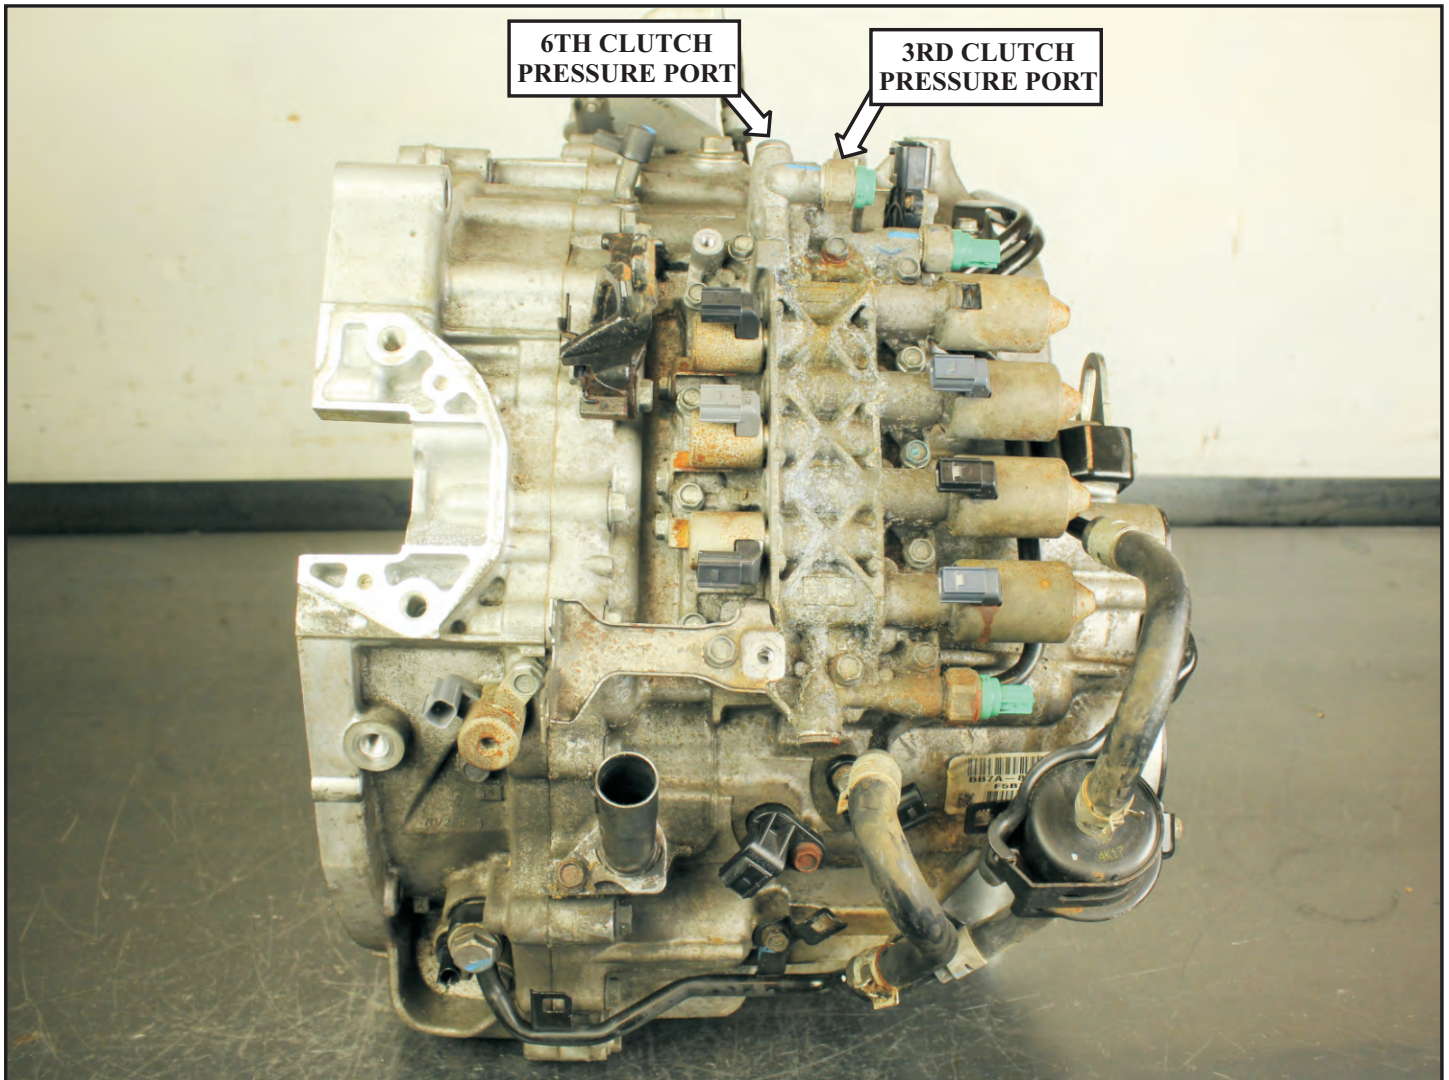

Figure 7
1. Install the pressure gauge into the 3rd clutch pressure port marked “3” shown in figure 7.
1. Install the pressure gauge into the 6th clutch pressure port marked “6” shown in figure 7.